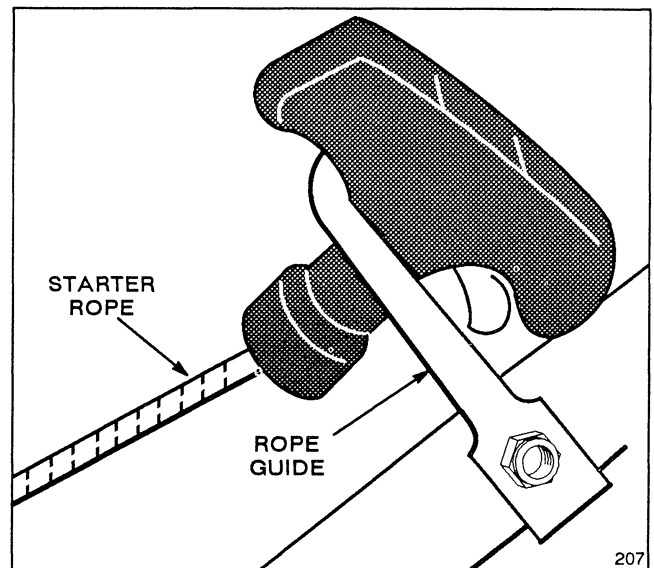

Figure 3
3. STARTER ROPE (Fig. 3)—By squeezing control bar (Fig. 5) against handle, blade brake will release and allow rope to be pulled easily up through rope guide. Pull starter rope through opening in rope guide.